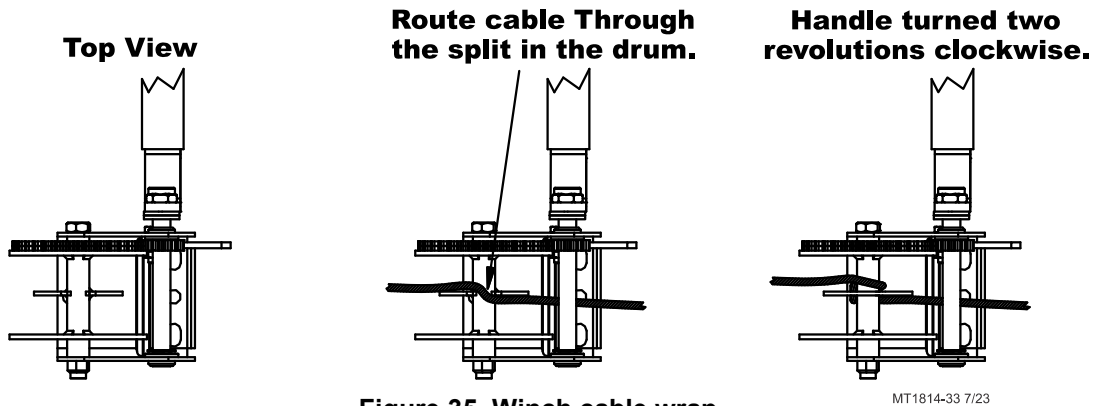

Figure 35. Winch cable wrap
- Lay the cable through the split in the winch drum. Turn the winch handle clockwise two revolutions to wind some cable onto the winch drum, see **figure 35**.